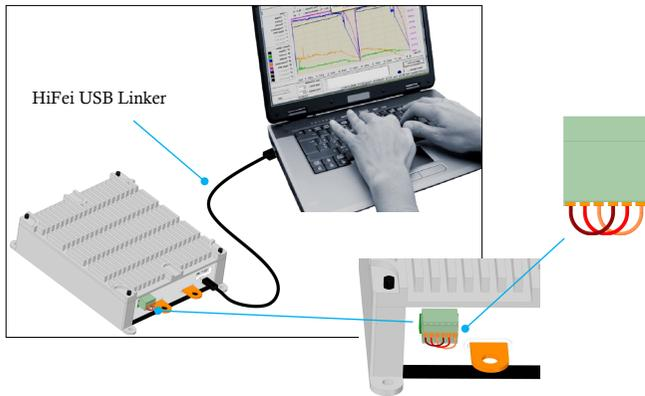

Fig. 6: Wiring Diagram of Firmware Upgrade
The Fulcrum III SHV ESC's firmware can be upgraded if there is a new firmware for the ESC be released. Before upgrade the ESC, there are 3 wires of 6P plug have to be shorten as Fig. 6, and connect the Fulcrum ESC to computer with HiFei USB Linker.
- Connecting the cable to ESC and WiFi dongle (Figure 6)